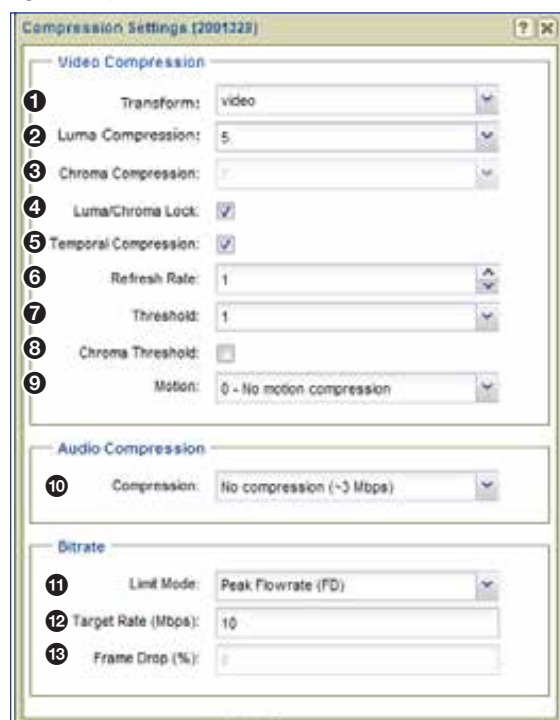

Figure 52. Compression Dialog Box (Encoder Only)
With an encoder device selected, click **Compression** to open the **Compression Settings** dialog box to set the amount of compression on the encoded source (see figure 52).
Video Compression panel (see figure 52 on the previous page)
- 9 **Motion** (see figure 52 on page 69) — This drop-down list is used to adjust motion compression. The value can be set from **0** to **15**, where **0** is no additional motion compression and **15** is full motion compression. When enabled, motion detected on the area of the screen is heavily compressed. This reduces bandwidth when the eye cannot perceive significant detail due to the motion. When motion stops, the video continues at the standard resolution, preserving screen integrity.
- **Shared Flowrate (FD)** — This mode limits the total video network traffic for the source. Frames are dropped if the **instantaneous** data rate is higher than the flowrate entered in the **Target Rate (Mbps)** field.
- **Peak Flowrate (FD)** — This mode limits the video network traffic for a single source stream. Frames are dropped if the **instantaneous** data rate is higher than the flowrate entered in the **Target Rate (Mbps)** field. Using *N* output streams increases the bandwidth *N* times unless the multicast RTP transport protocol is used.
- **PBR-F (FD)** — This mode is the same as **PBR - F** except frames are dropped when a larger bandwidth reduction (such as a reduction that cannot be achieved with compression settings alone) is required.
- 12 **Target Rate (Mbps)** (see figure 52 on page 69) — This field is used in all bandwidth management modes (except **Manual Frame Drop**) to specify the network bandwidth used by the source. This value is specified in Megabits per second (Mbps).